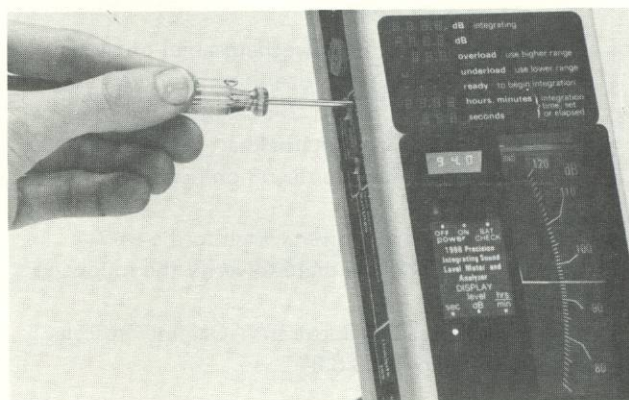

Figure 3-2. Adjustment of left-panel CAL control.
j. Compare the "corrected reading (dB)" obtained in step i with the output level (dB) of the calibrator and, if they're not the same, use the supplied calibration screwdriver to adjust the 1988 CAL control (left panel) for the proper reading (see Figure 3-2).